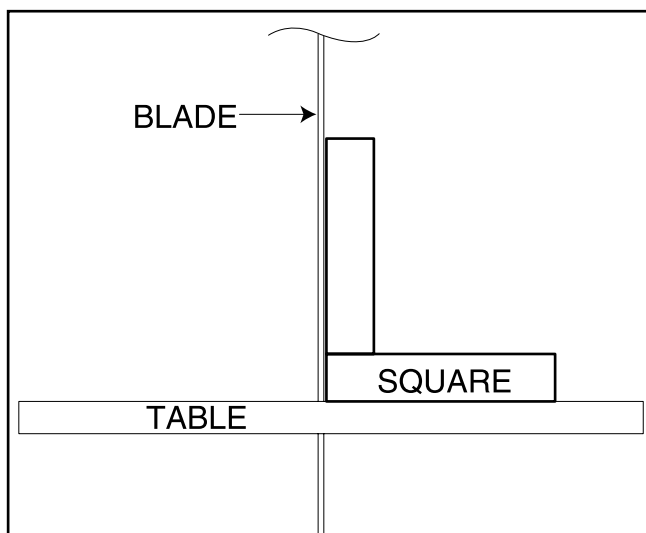

Figure 13. Squaring the blade to the table.
2. Tilt the table to the desired angle. Refer to the angle gauge on the table bracket. Double-check proper angle adjustment by placing a machinist's or combination square against the table and blade and adjust until perpendicular. **Figure 13.**